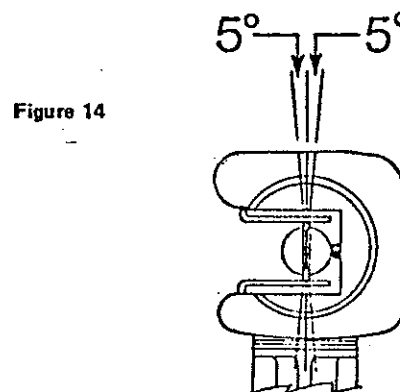

Figure 14
4. When the operating arm at the base of the rotating insulator is against the closed position stop, the blade tip should be vertical in the jaw contacts. (Figure 14)